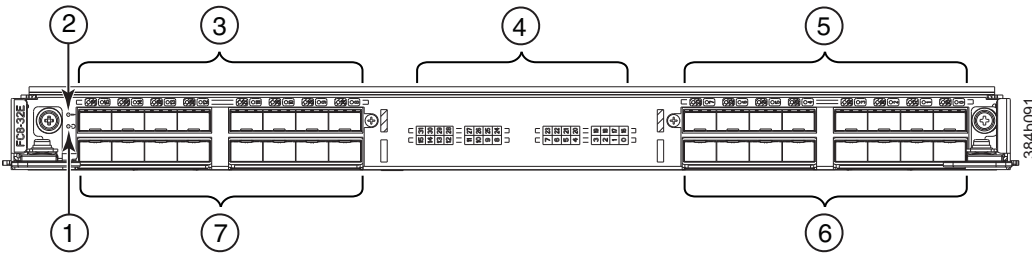

Figure 55. FC8-32E port blade
- Figure 55 on page 142 shows an FC8-32E port blade